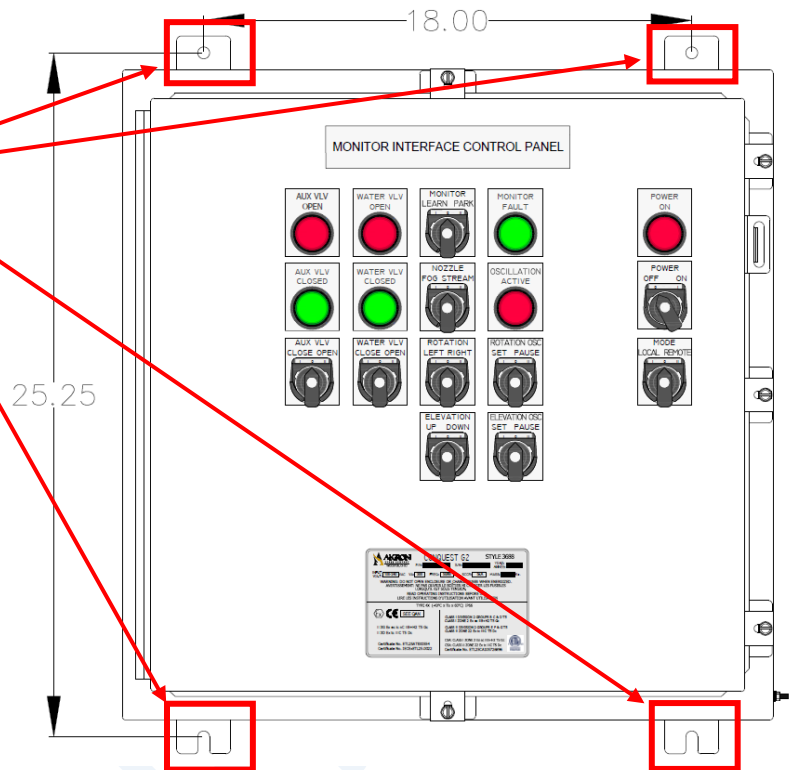

Figure A-2
- The MICP™ enclosure has four (4) mounting pads with .44" (11.18mm) diameter holes. See **Figure A-2**
- Mounting hole centers are 18" (457.20mm) horizontal by 25.25" (641.35mm) vertical. See **Figure A-2**